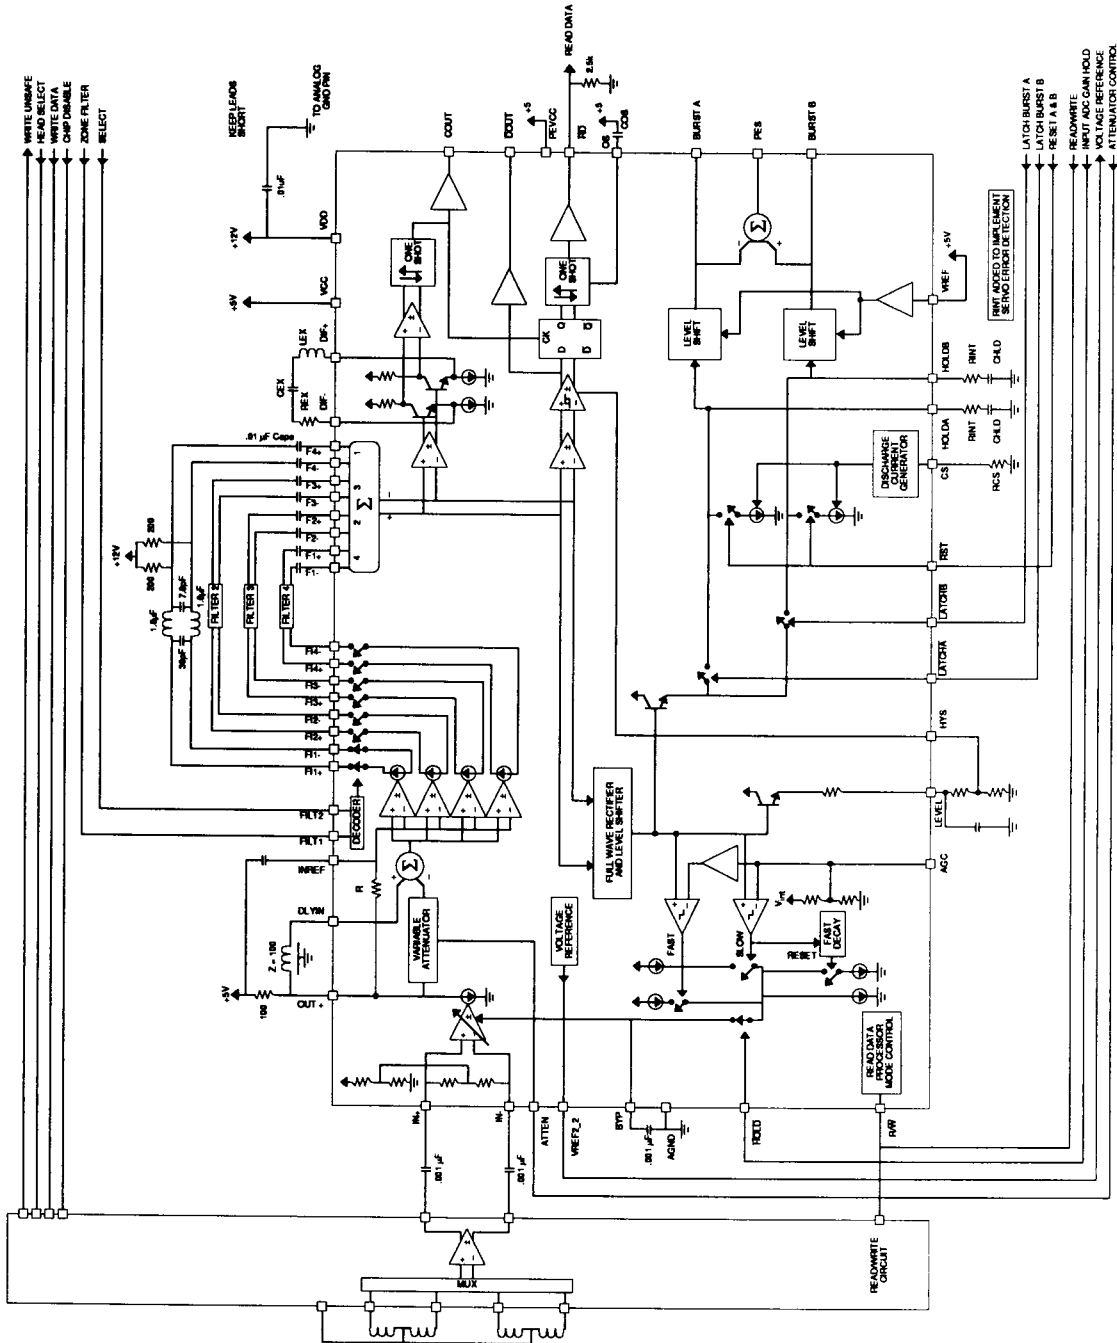

FIGURE 5: Applications Circuit Diagram
- The circuit is connected as in Figure 5.